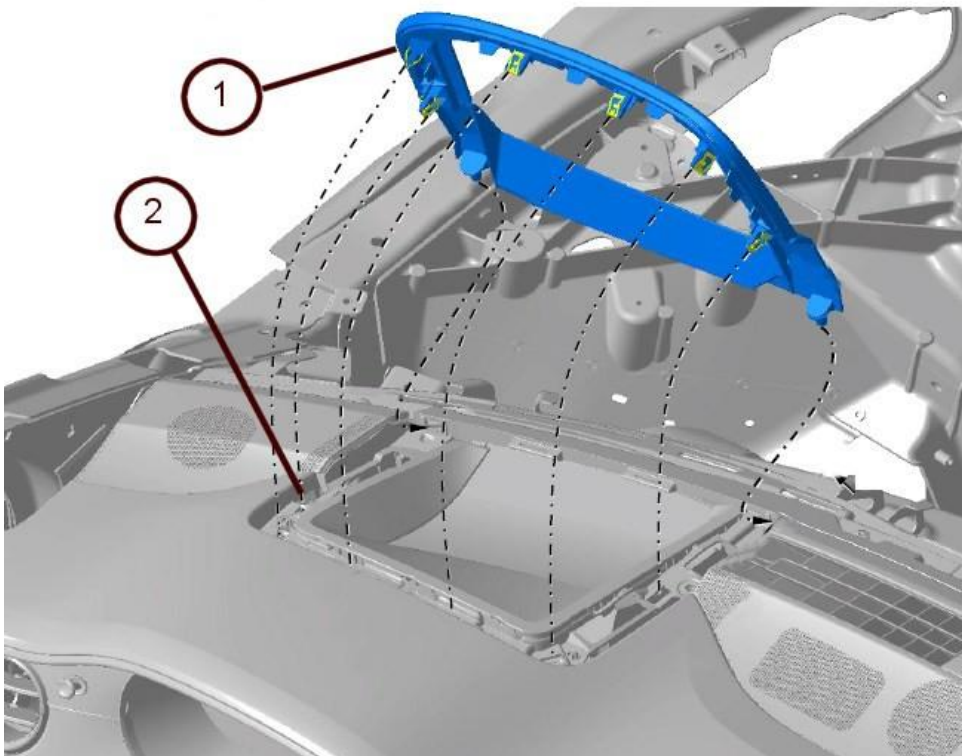

Figure 1
- Relative movement between Control Unit for Head-Up Display and associated Trim Ring – Figure 1